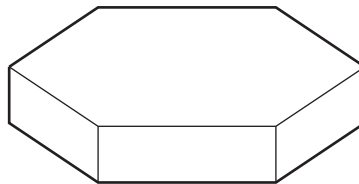

Fig. 11
- (b) Fig. 11 shows a basic former around which the acrylic will be moulded to shape.
(ii) Describe **two** modifications that would need to be made to the former shown in Fig. 11 so that it could be used to vacuum form the base of the desk organiser.